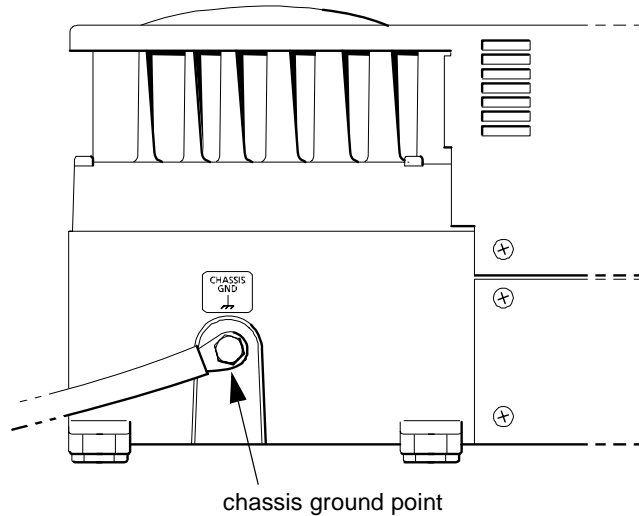

Figure 1 Completed DC Wiring and DC Grounding
1. Using the appropriate wrench, loosen the bolt on the chassis ground point shown in Figure 1.